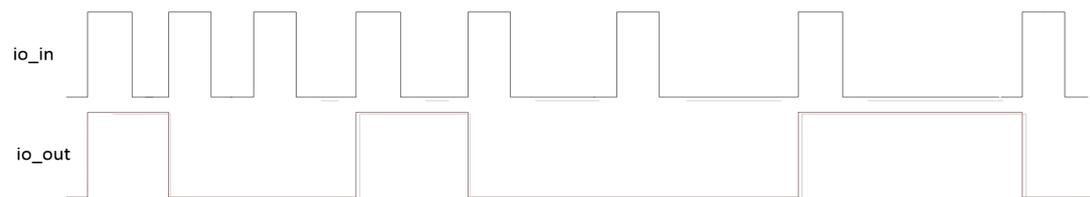

Figure 24 Non-uniform cycles
- When io\_in is a non-uniform period distribution, io\_out is a non-equal duty waveform after odd frequency division, as shown in Fig. 24.